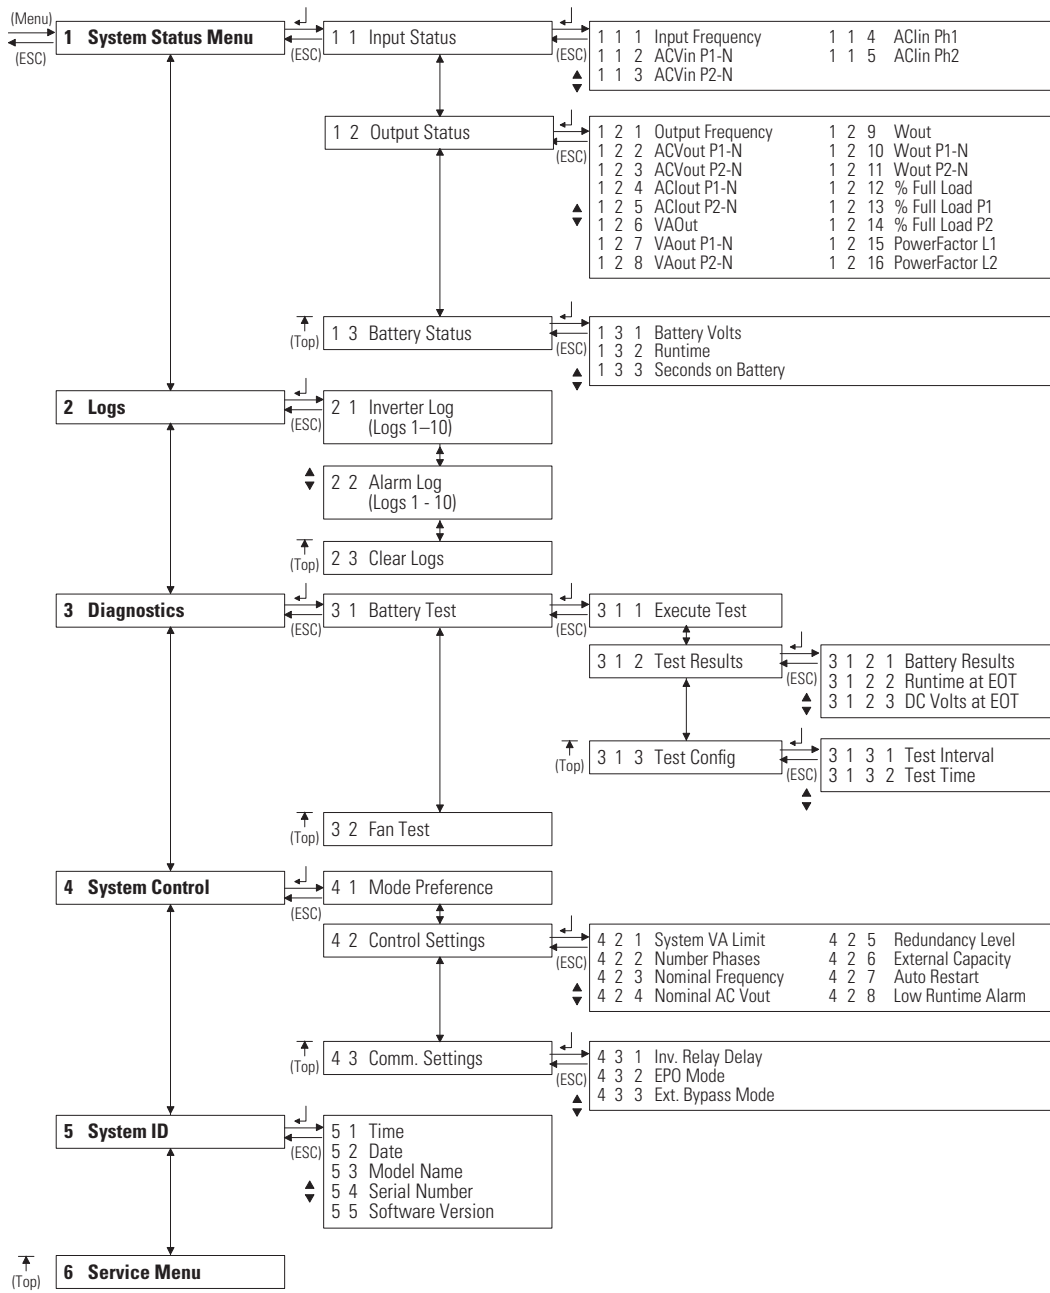

Figure 60. System Menu Map
One or two triangles at the right of the display indicate which arrow buttons are active for moving within a menu level. See Figure 60 on page 66 for the complete system menu.
1. Use the Menu map (Figure 60 on page 66) to find the parameter you need to change, and move through the menu structure until the parameter name appears on the display.
Figure 60 shows all the Eaton 9170+ system parameters. The menu structure has six primary-level menus, System Status Menu (1) through Service Menu (6). Each primary menu has secondary items numbered by their location under the primary menu. Use the various buttons as shown in the map to navigate to the desired parameter.